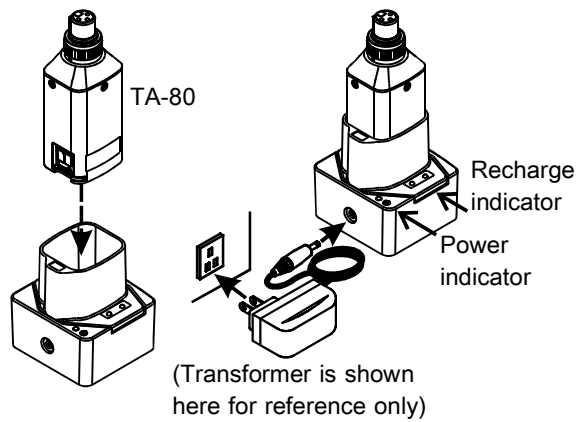
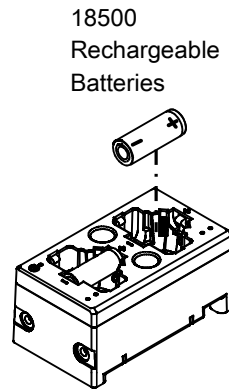

Fig. 20: Recharged in MP-8T
Fig. 22: 18500 rechargeable battery recharged in MP-80
1. TA-80 transmitter can be recharged in MP-8T or MP-80, Fig. 20, 21. 18500 recharge batteries can be recharged in MP-80, Fig. 22.
2. MP-8T, Fig. 20.